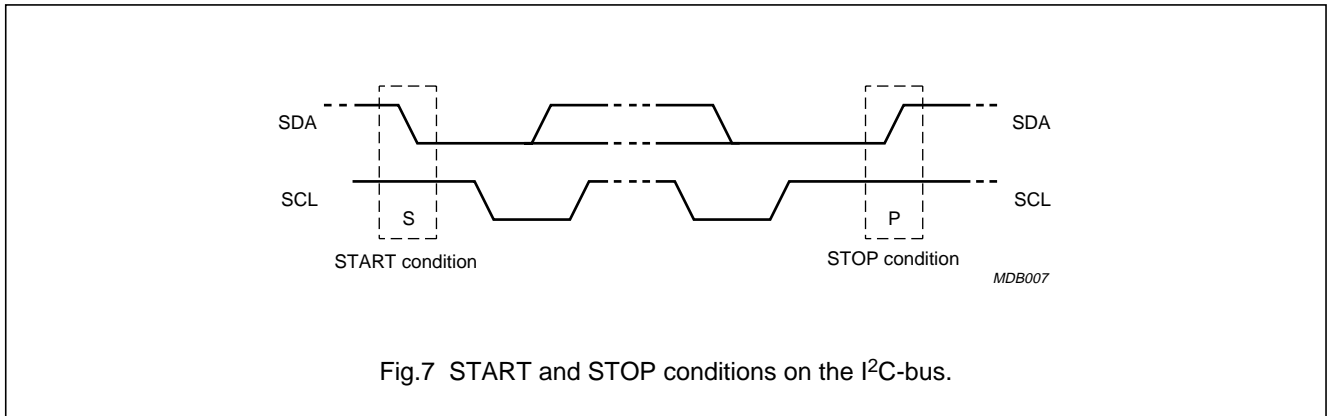

Fig.7 START and STOP conditions on the I2C-bus.
Both data and clock lines remain HIGH when the bus is not busy. A HIGH-to-LOW transition of the data line, while the clock is HIGH is defined as the START condition (S). A LOW-to-HIGH transition of the data line while the clock is HIGH is defined as the STOP condition (P) (see Fig.7).